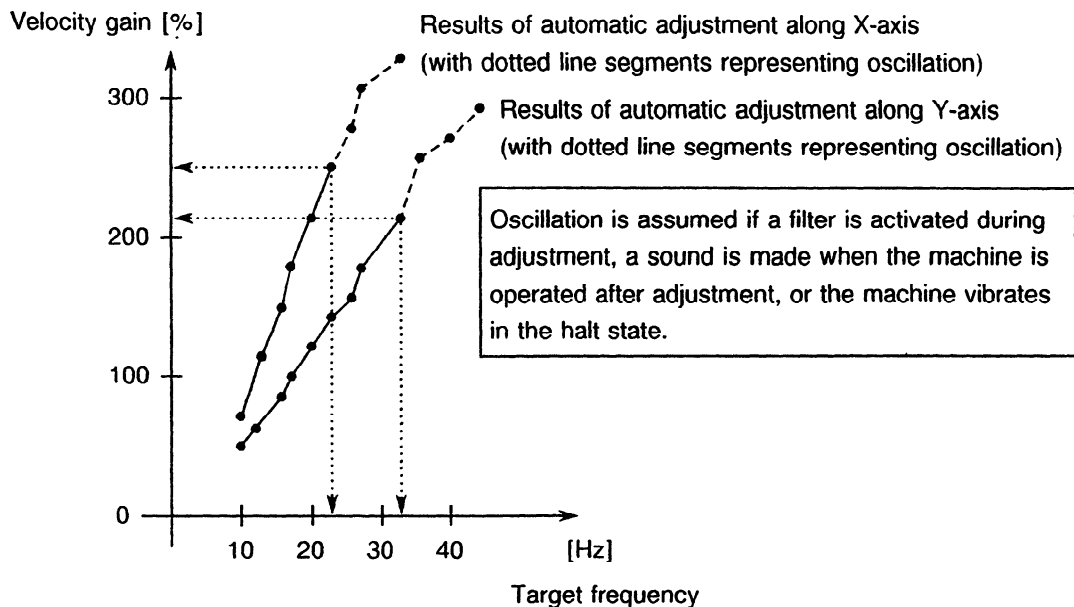

Fig. 2.7.1 Example of Results of Automatic Adjustment
The results of automatic adjustment can be viewed easily by plotting the results as shown in Fig. 2.7.1 with the inverses of the target periods (band frequencies) along the horizontal axis and velocity loop gains along the vertical axis.
Fig. 2.7.1 shows the results of automatic adjustment along the X-axis and Y-axis of a machine. Theoretically, the target frequencies (inverses of target periods) are proportional to the velocity gains. As a higher target frequency (shorter target period) is used, velocity loop oscillation can occur more easily during automatic adjustment. In such a case, the results of adjustment become less precise. In addition, a shorter target period activates the torque command filter during automatic adjustment. Ultimately, the adjustment becomes impossible, and a longer
target period is used automatically. This phenomenon occurs in the dotted line segments in Fig. 2.7.1. So in this example, the maximum allowable velocity loop band frequency is about 22 Hz for the X-axis, and about 33 Hz for the Y-axis.
Thus, automatic adjustment can be regarded as having the function of a sort of measuring equipment that quantitatively relates a physical quantity (velocity loop response characteristic) with the velocity loop gain parameter of the digital servo. Furthermore, automatic adjustment can be regarded as a means of setting a gain that matches the environment where the machine is used, and also as a means of checking the mechanical rigidities of the axes, based on the results of adjustment as shown in Fig. 2.7.1.
As described in (1) above, the automatic adjustment function does not directly implement an optimal state for each axis, but is a means of determining a velocity loop gain to achieve a given target period. Accordingly, a velocity loop gain needs to be determined from Fig. 2.7.1, depending on the situation.